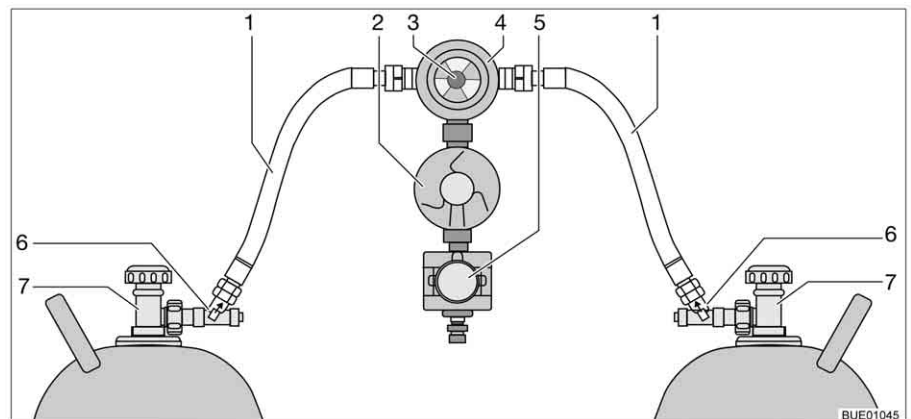

Fig. 109 Crash protection unit switching facility
The crash protection unit consists of two flow restrictors with manual release button (Fig. 109,6) a reversing valve (Fig. 109,4) with pressure regulator (Fig. 109,2), an electrovalve (Fig. 109,5) and the operating unit with tricoloured LED. The reversing valve is installed between the two gas tubes (Fig. 109,1).
Use the knob (Fig. 109,3) on the reversing valve to select which of the gas bottles is to be used as a primary bottle and which is to be used as a reserve bottle.
Only the electrical functions can be switched at the operating unit (Fig. 110). The regulator taps on the gas bottles (Fig. 109,7) and the release buttons (Fig. 109,6) must be opened manually.
- Open the regulator taps of the gas bottles (Fig. 109,7).
- Press the release buttons (Fig. 109,6) successively for 10 seconds.
- Use the knob (Fig. 109,3) on the reversing valve (Fig. 109,4) to select the gas bottle which is to be the primary source of gas (primary bottle). Always turn the knob as far as it will go.
- Close the regulator taps of the gas bottles (Fig. 109,7).